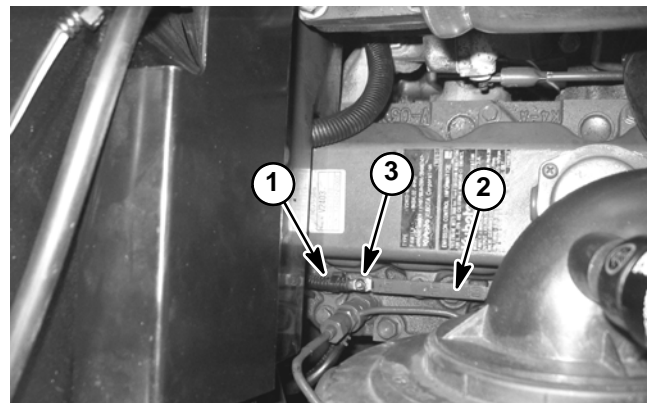

Figure 12
- B. The glow plugs (Fig. 12).
- B. The glow plug (Fig. 12).